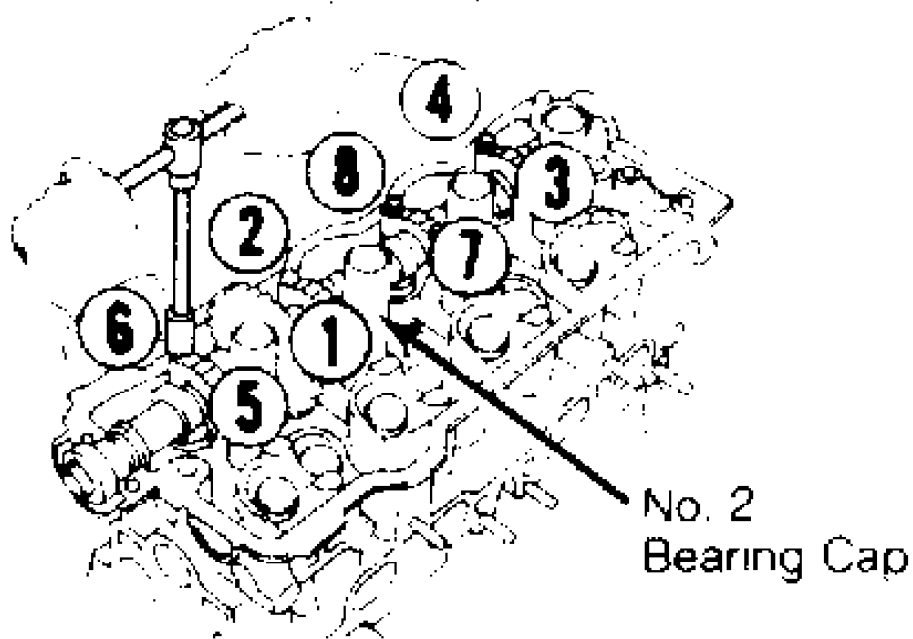

Fig. 13: Bearing Cap Bolt Numbers
3) Remove camshaft rear bearing cap. Loosen and remove, in sequence, bearing cap bolts No. 3 to 8. See Fig. 13. Do not remove No.